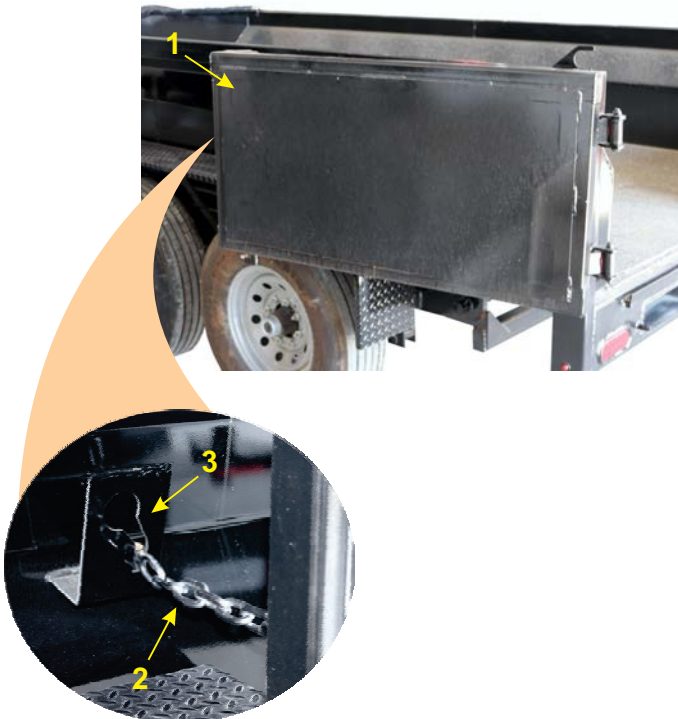

Figure 3-16 – Secure Gate in Open Position
- c. Secure both gates in the open position (1, Figure 3-16) using the door chains (2, Figure 3-16) and lock brackets (3, Figure 3-16) on each side of the trailer.